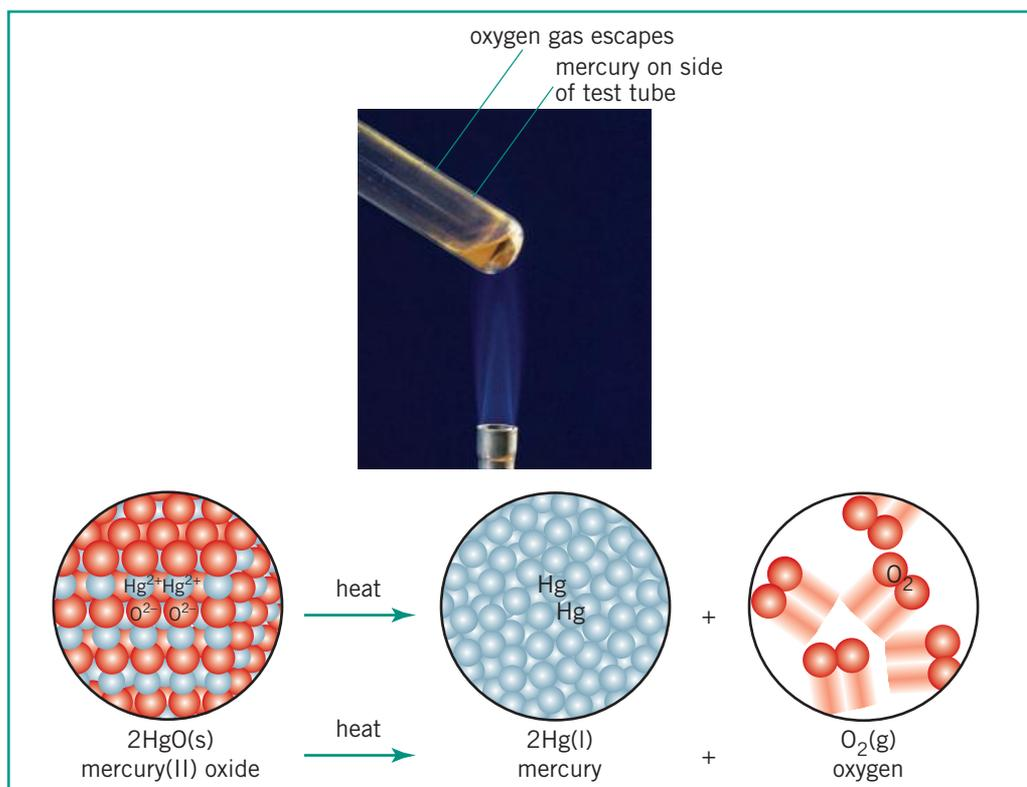

Figure 4.3 Mercury(II) oxide decomposes when heated to form mercury metal and oxygen gas.
The compound mercury(II) oxide, when heated strongly, decomposes into the elements mercury and oxygen (Figure 4.3).